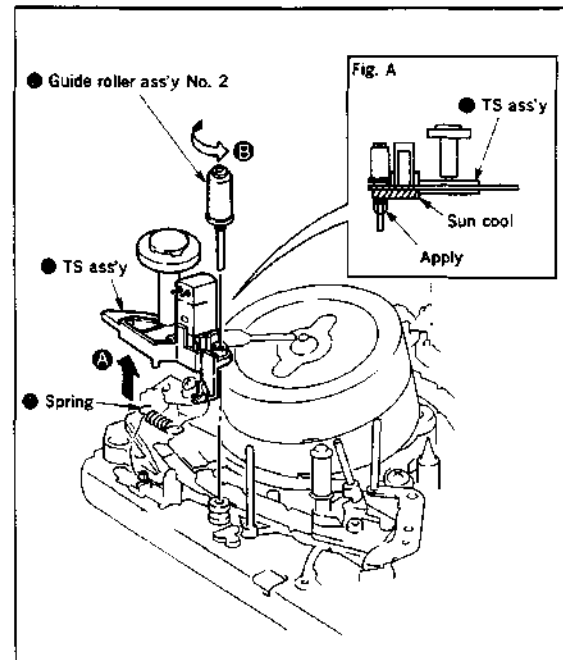

Fig. 3-8.
**3-2. TS ASS'Y AND GUIDE ROLLER ASS'Y No. 2 (Fig. 3-8)**
- 1) Remove the spring ①.
- 2) Remove the TS ass'y ② in the direction of arrow A.
- 3) Turn guide roller ass'y No. 2 ③ in the direction of arrow B and pull it out.
- Clean the surface of guide roller No. 2 ④ where the tape is attached.